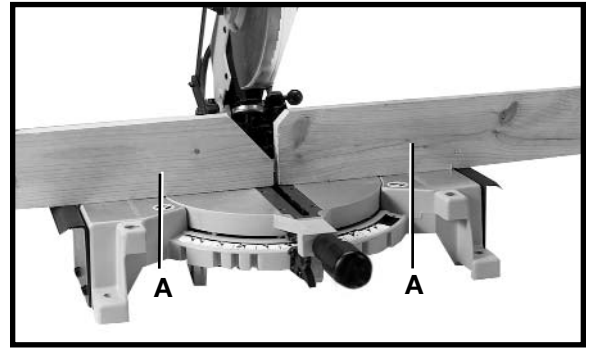

Fig. 35
Holes are provided in the fence to attach an auxiliary fence (A) Fig. 35. This auxiliary fence is constructed of straight wood approximately 1/2" thick by 3" high by 20" long. **NOTE:** The auxiliary fence (A) is used **ONLY** with the saw blade in the 0 degree bevel position (90 degrees to the table). When bevel cutting (blade tilted), the auxiliary fence must be removed.